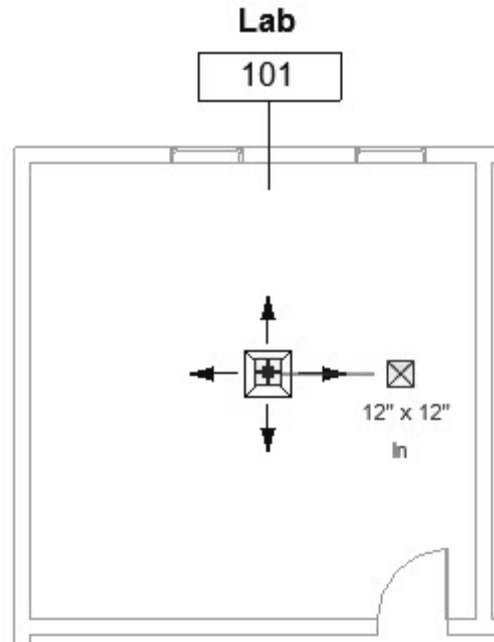

Figure 2–26
6. Click near the center of the room labeled **Lab 101**, as shown in Figure 2–26.